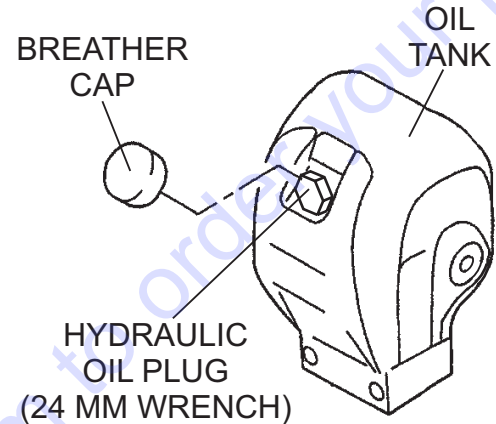

Figure 31. Hydraulic Oil Tank
1. Remove the breather cap and oil plug (Figure 31) from the hydraulic oil tank using a 24mm hex socket.